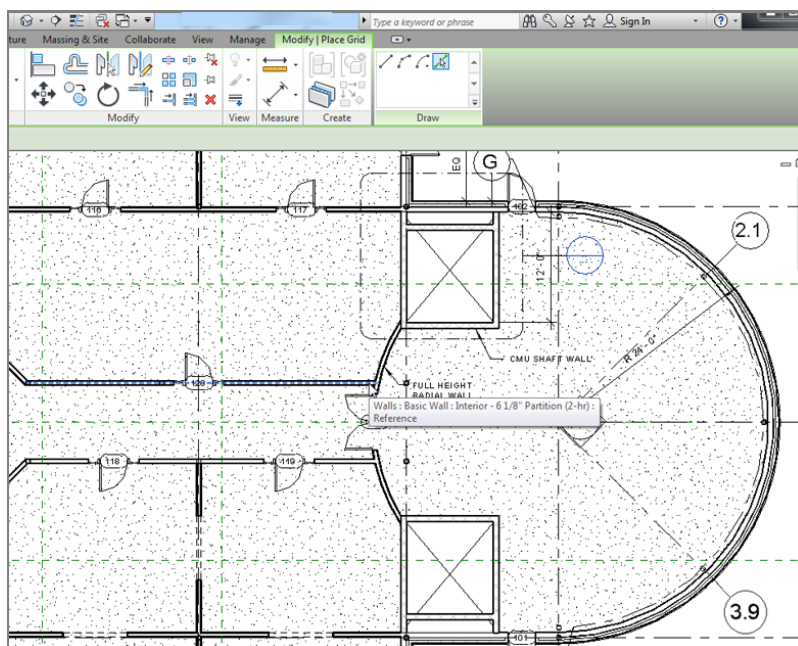

FIGURE 8.9: Adding a column line to the north corridor wall
3. Pick the core centerline of the north corridor wall, as shown in Figure 8.9.